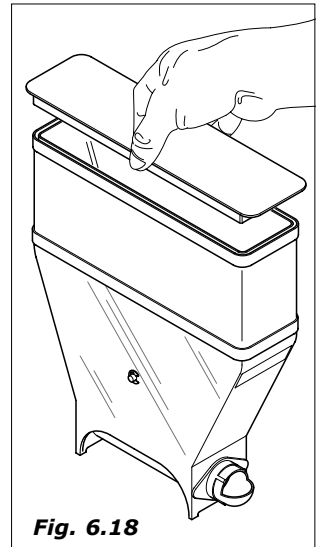

Fig. 6.18
- remove the lids from the product containers covers and product chutes (Fig. 6.18). Dip all in the solution previously prepared